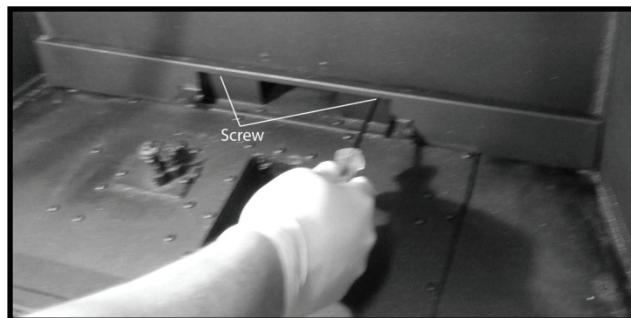

Figure 65: Air Deflector
1. Remove the baffle by removing screws securing the front edge of the baffle seen in Figure 65. After removing the two screws you can slide the baffle out of the fireplace.
Position the air deflector in the fireplace as seen in figure 65 and secure with two screws using a screwdriver.
Remove the two screws seen in figure 65 using a screwdriver, and remove the air deflector from fireplace.